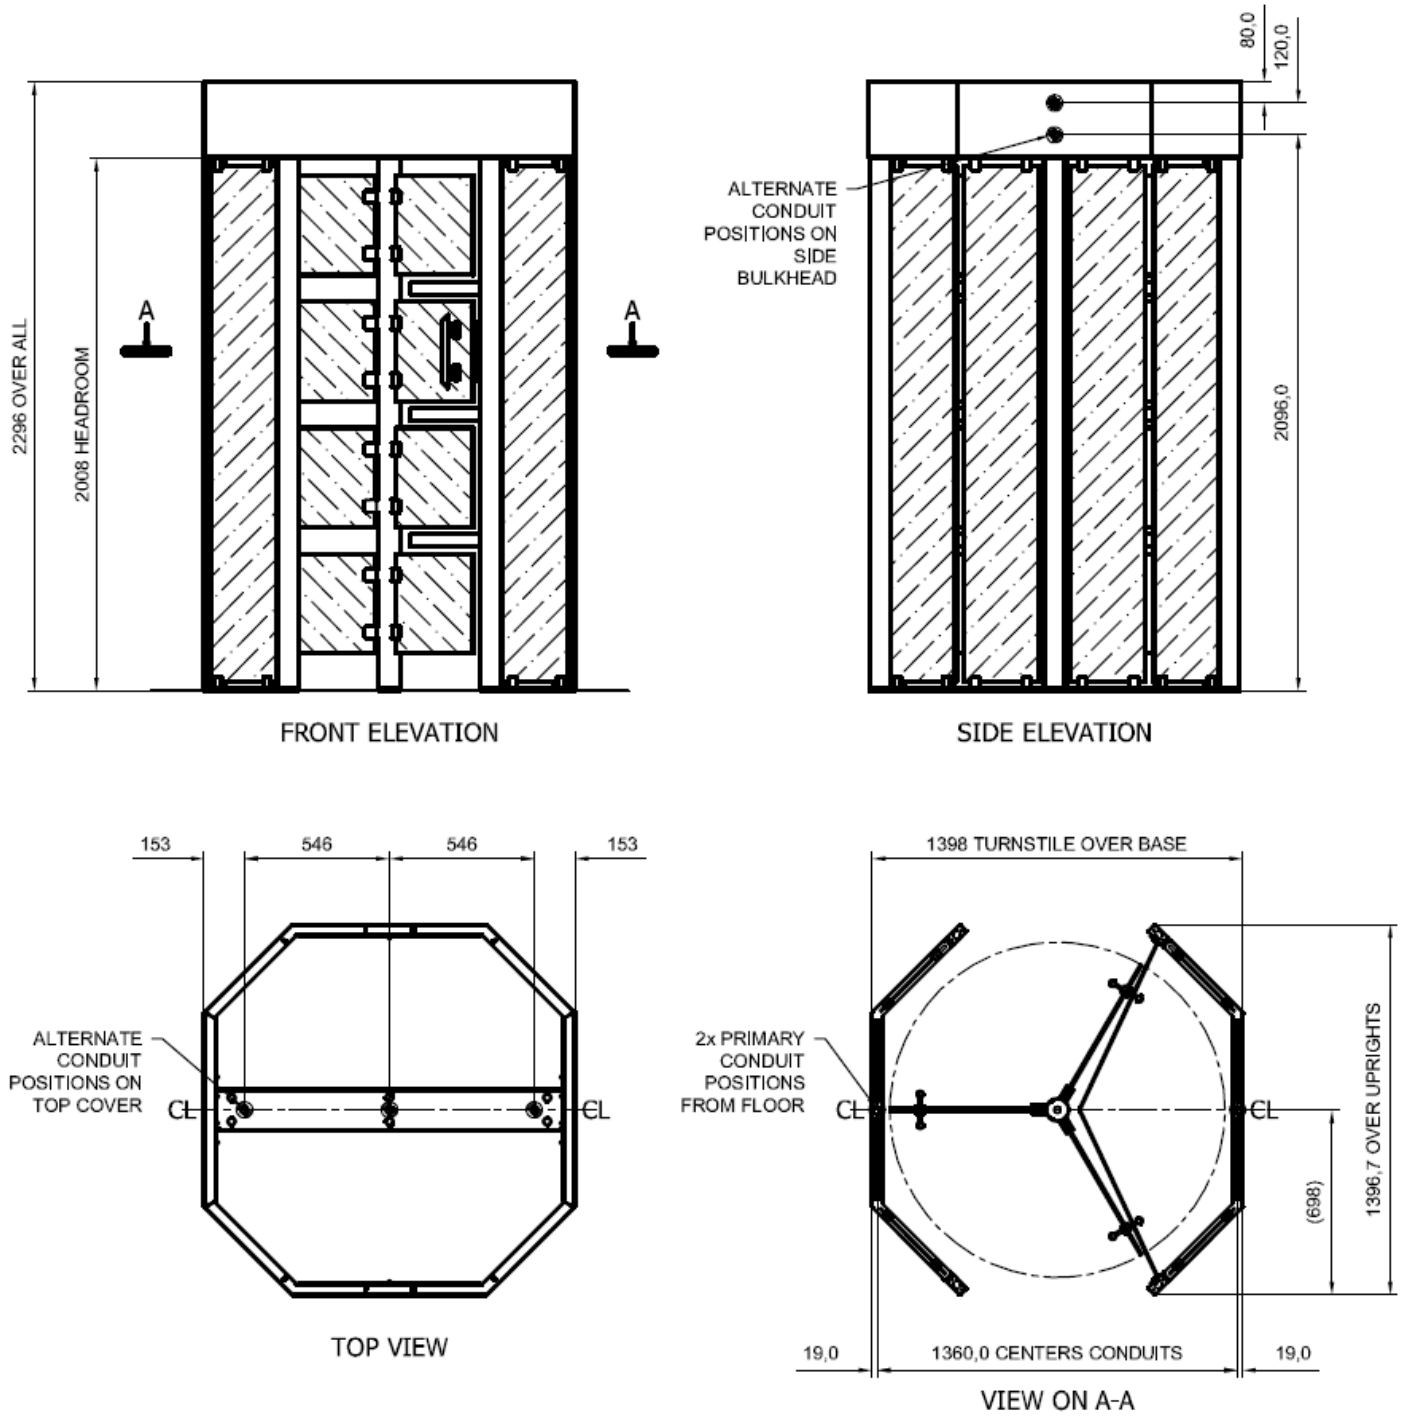

Figure 2: Single Turnstile Conduits
- 4.4. The Core Positions of the Single Octagonal Glass Turnstile are located primarily at the base, 1360mm apart, shown on **Figure 2: Single Turnstile Conduits**. There are alternative conduit entry points on the side top bulkhead and down into the top cavity from the cover plate.